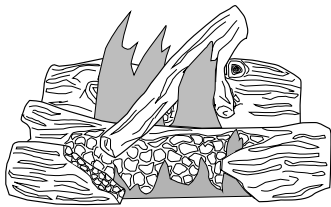

Figure 56 - Typical Flame Pattern for BDV34N(A) and BDV34P(A)
Figure 56 shows a typical flame pattern for models BDV34N(A) and BDV34P(A).